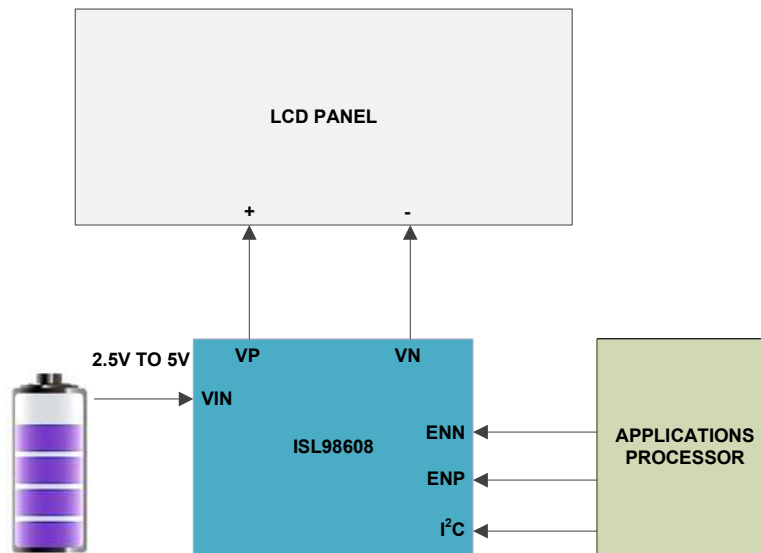

FIGURE 76. TYPICAL SYSTEM APPLICATION BLOCK DIAGRAM
The ISL98608 is a display PMIC and can be used to supply power to an LCD display. Figure 76 shows the typical system application block diagram. For display power, the ISL98608 integrates a boost regulator (VBST), low dropout linear regulator (VP) and an inverting charge pump regulator (VN). The boost voltage is generated from a battery voltage ranging from 2.5V to 5V, and boost regulator output can be programmed from 4.60V to 7.3V. The VBST regulator integrates low-side NFET and high-side PFET MOSFETs for synchronous rectification.